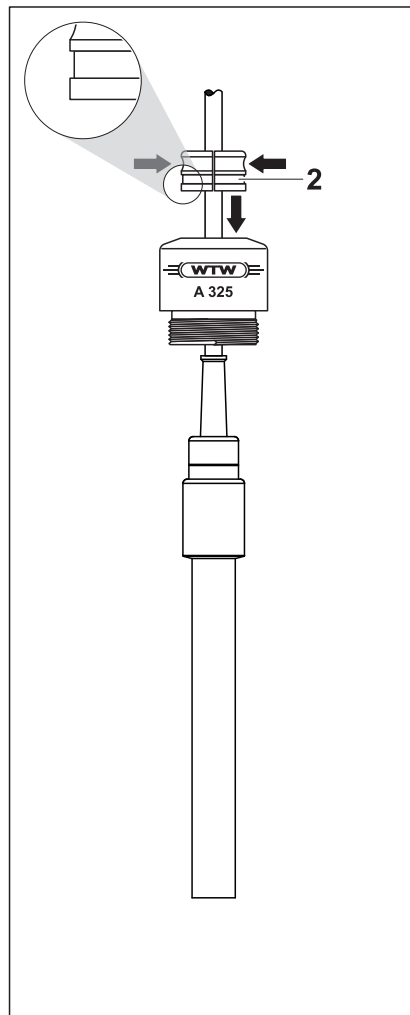

Figure 2
2	Clip the clamping ring (pos. 2 in figure 2) on the sensor cable. The sharp-edged side of the clamping ring should point to the armoring (see detail of figure 2).